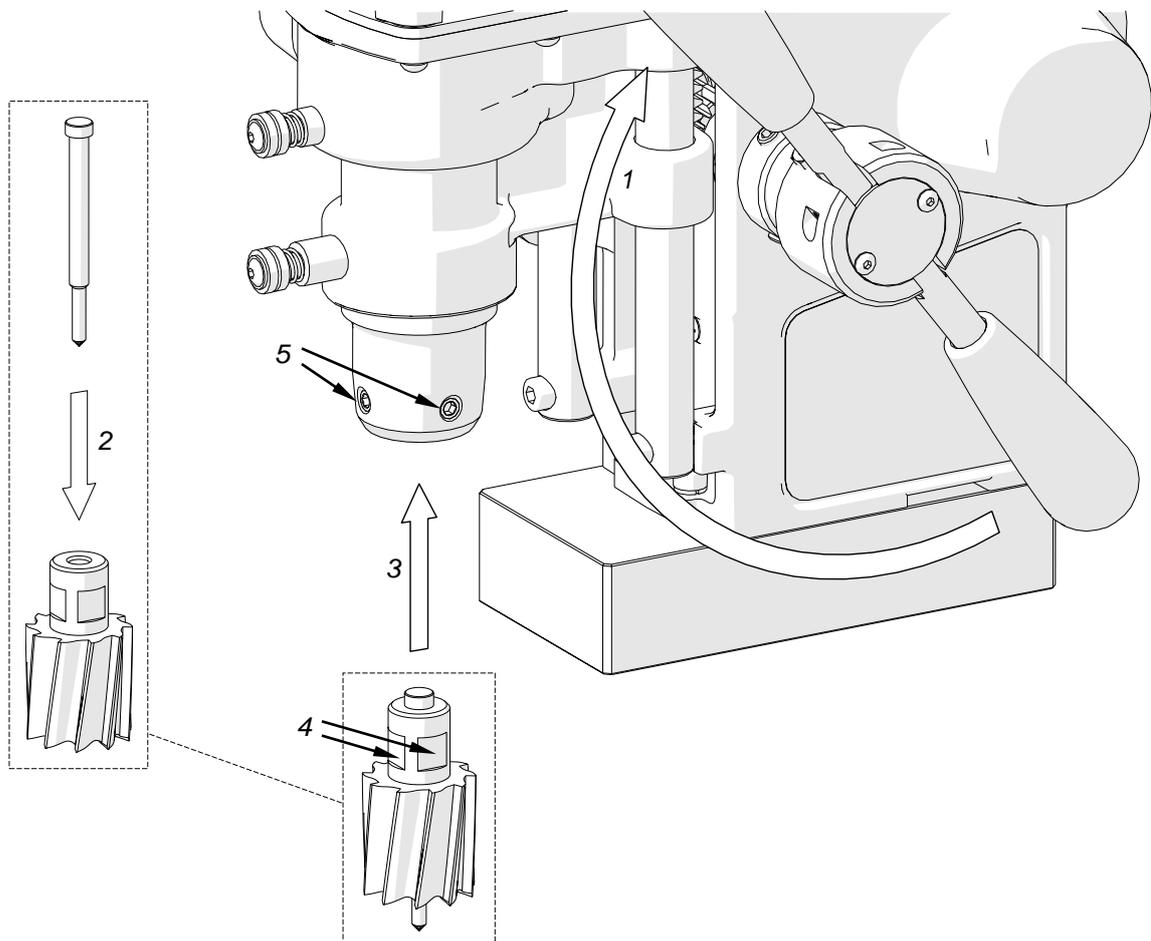

Figure 3. Mounting the annular cutter
Unplug the power cord from the power outlet and raise the motor by rotating the spoke handles clockwise (1, Figure 3). Insert the proper pilot pin into the annular cutter (2), then wear protective gloves and place the cutter into the arbor (3) in such a way to align the flats (4) with the set screws (5). Finally, tighten both set screws with the supplied 4 mm hex wrench. To dismantle the cutter, proceed in reverse order.